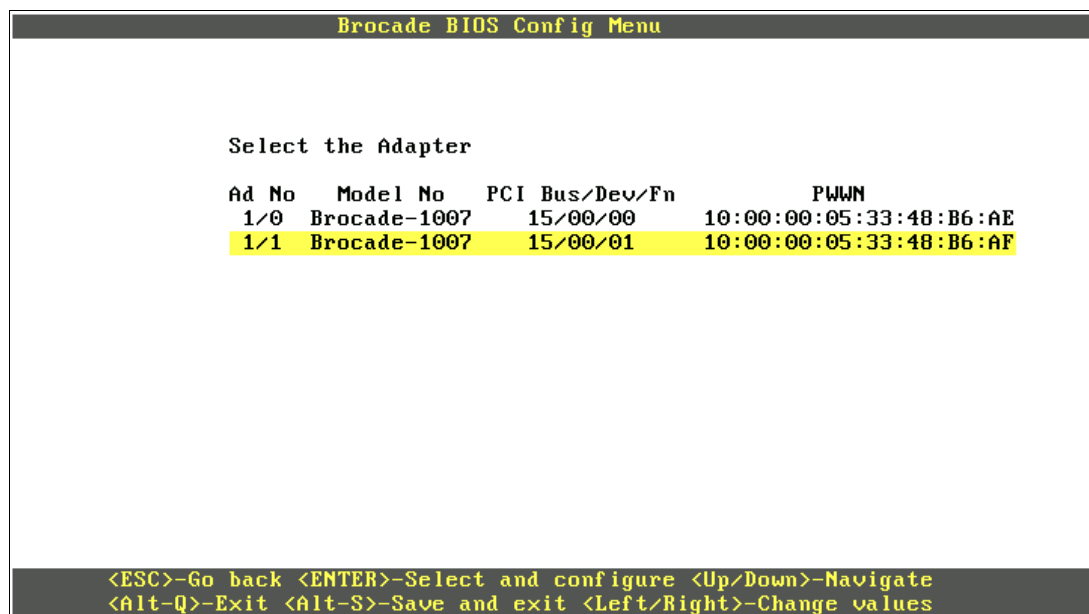

Figure 9-205 Selecting an adapter port
10. In the Brocade BIOS Config Menu panel (Figure 9-205), select an adapter port. In this example, we used the second port, Adapter 1 port 1.